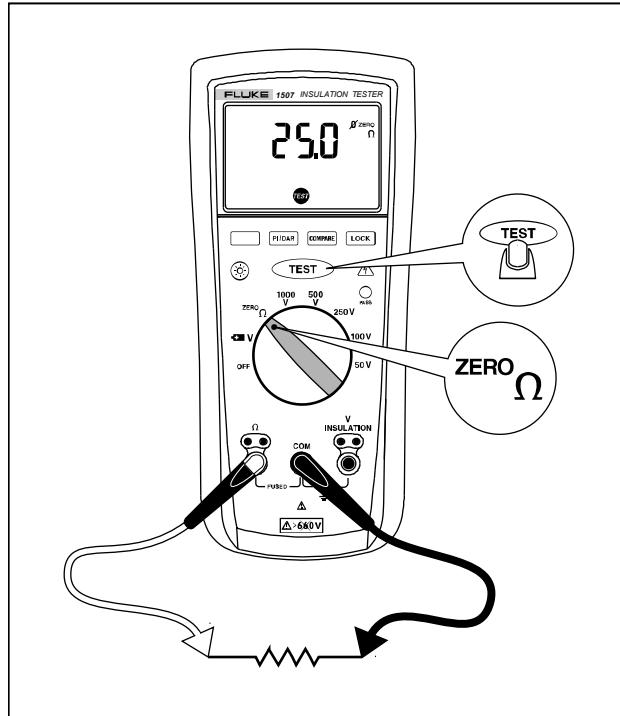

Figure 6. Measuring Earth-Bond Resistance
1. Insert test probes in the Ω and com input terminals. See Figure 6.